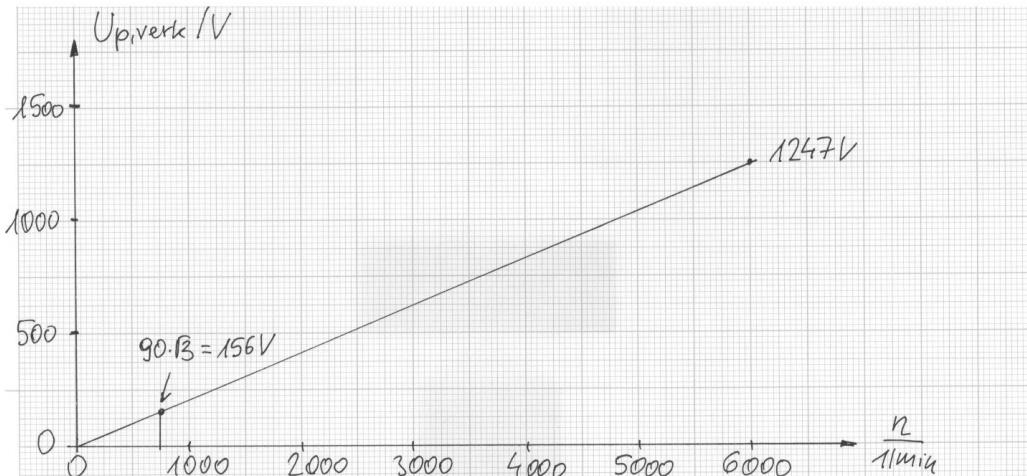

Fig. 27-2: Back EMF (r.m.s., line-to-line) versus speed, measured at open circuit, no-load generator operation
Line-to-line voltage (Y): $U_{p,LL} = \sqrt{3} \cdot 720 = 1247 \text{ V}$... Diagram $U_{p,LL}(n)$: Fig. 27-2
Verkettete Spannung (Y): $U_{p,LL} = \sqrt{3} \cdot 720 = 1247 \text{ V}$ Diagramm $U_{p,LL}(n)$: Bild 27-2 deutsch